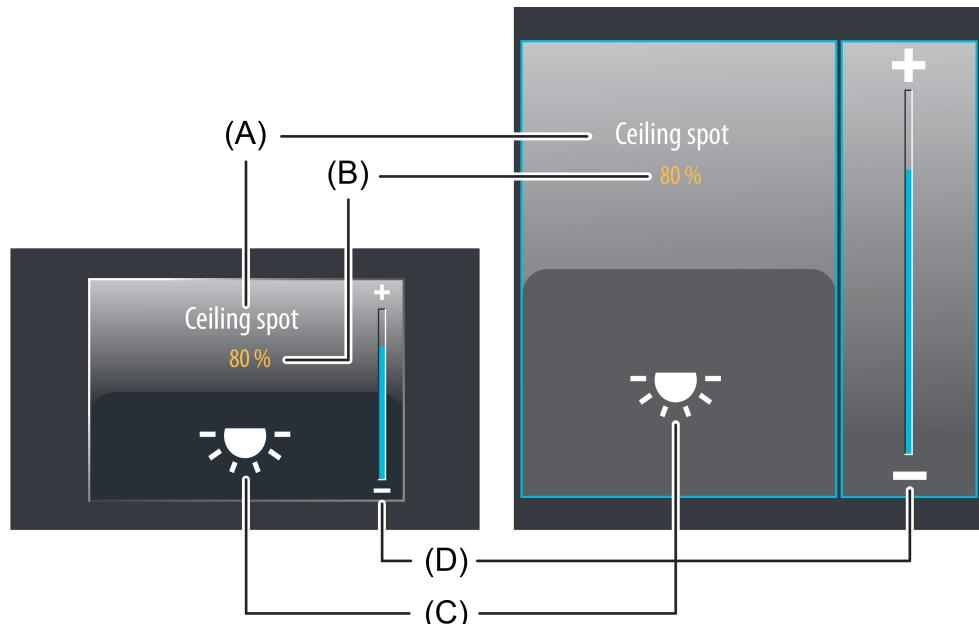

Figure 24: Example of an operating and display element of the function "Switching" "dimming (Start/Stop)"
The display area contains different display elements (figure 24) that are influenced by parameters. A name can be assigned to each KNX function in the configuration software (A). This text name is centred in the display element for display whereby controllable KNX functions are identified for the user (e.g. "ceiling spot"). In addition, a status value (B) can be displayed below the name, which displays brightness values in plain text ("0...100 %"), for example, depending on the object value of the dimming value feedback of the dimmer actuator addressed. After a device reset, the display shows "---%" until a feedback object value of the status text is received.